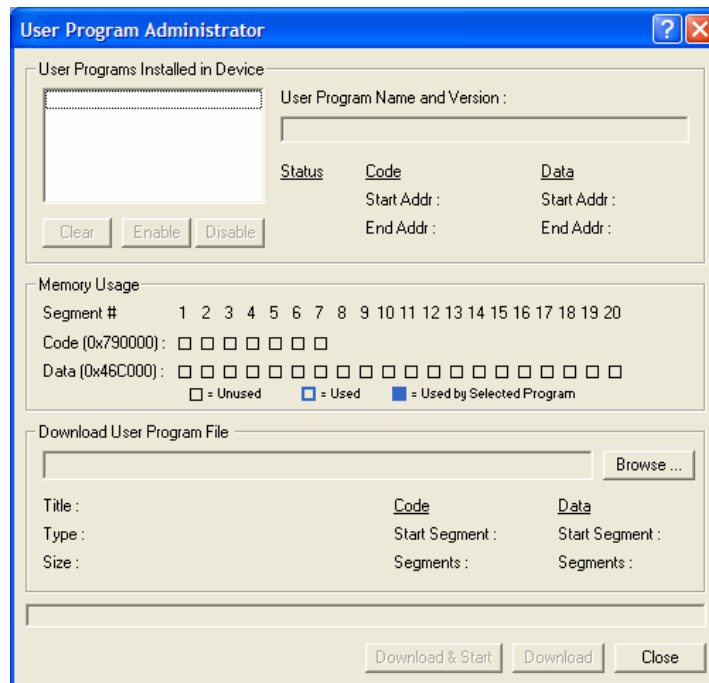

Figure 1. User Program Administrator
4. Select **Utilities > User Program Administrator** from the ROCLINK menu bar. The User Program Administrator screen displays (see Figure 1):